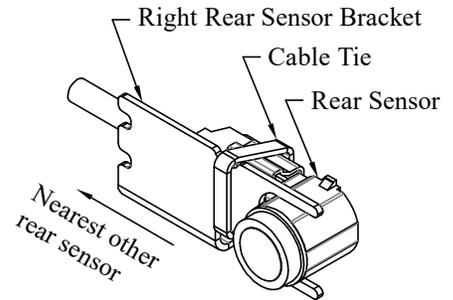

Figure 6: Orientation of sensor in bracket.
3. **Position** sensors into brackets and fix in position using a cable tie (Figure 6).